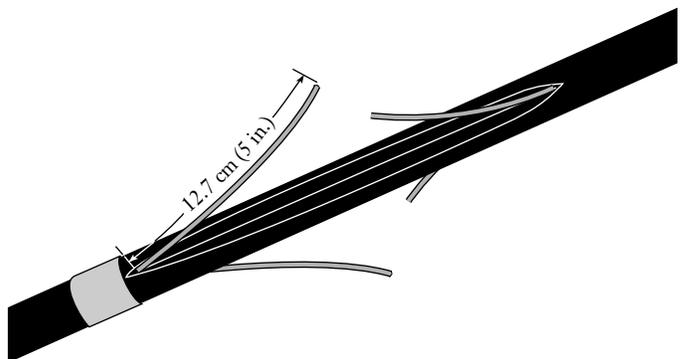

Figure 28
7.7 Use side cutters to cut the steel rods 12.7 cm (5 in.) from the tape wrap (Figure 28).